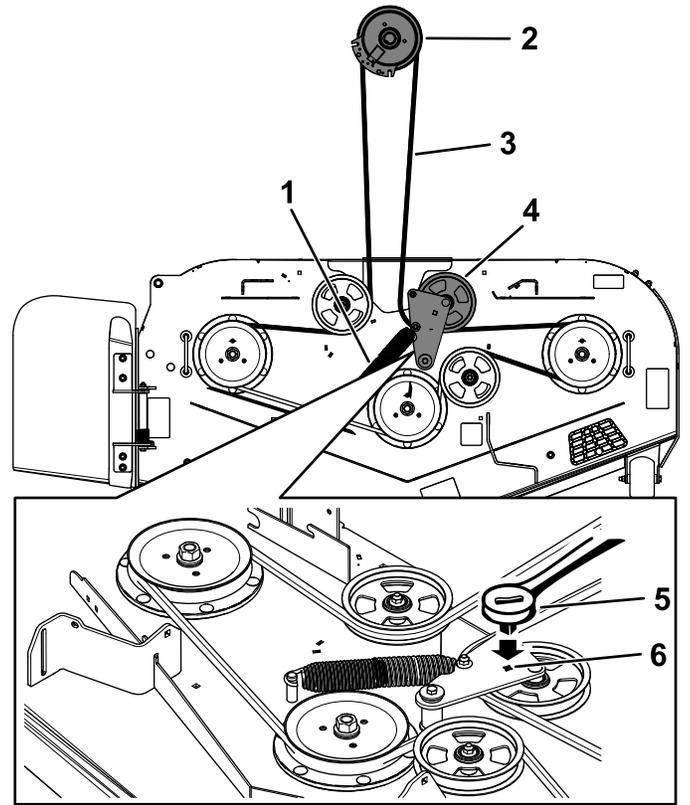

Figure 64
8. Use a 3/8-inch ratchet in the square hole in the idler arm to remove tension on the idler spring (Figure 64).
10. Remove the belt guide on the spring-loaded idler arm (Figure 64).
12. Install the new belt around the mower pulleys and the clutch pulley under the engine (Figure 64).
13. Install the belt guide on the idler arm (Figure 64).
14. Using the 3/8-inch ratchet in the square hole, install the idler spring (Figure 64).